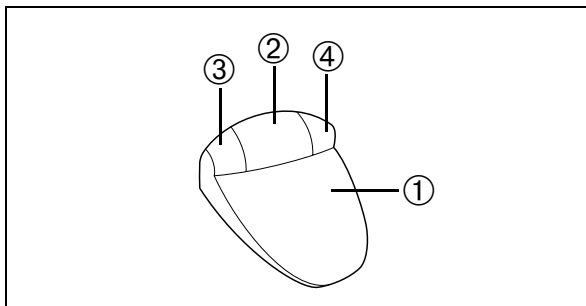

Fig. 79
The speed is pre-selected using the left-hand ③ and right-hand ④ buttons on the foot control (Fig. 79).
- Holding down the left-hand button ③ (Fig. 79):
- Holding down the right-hand button ④ (Fig. 79):